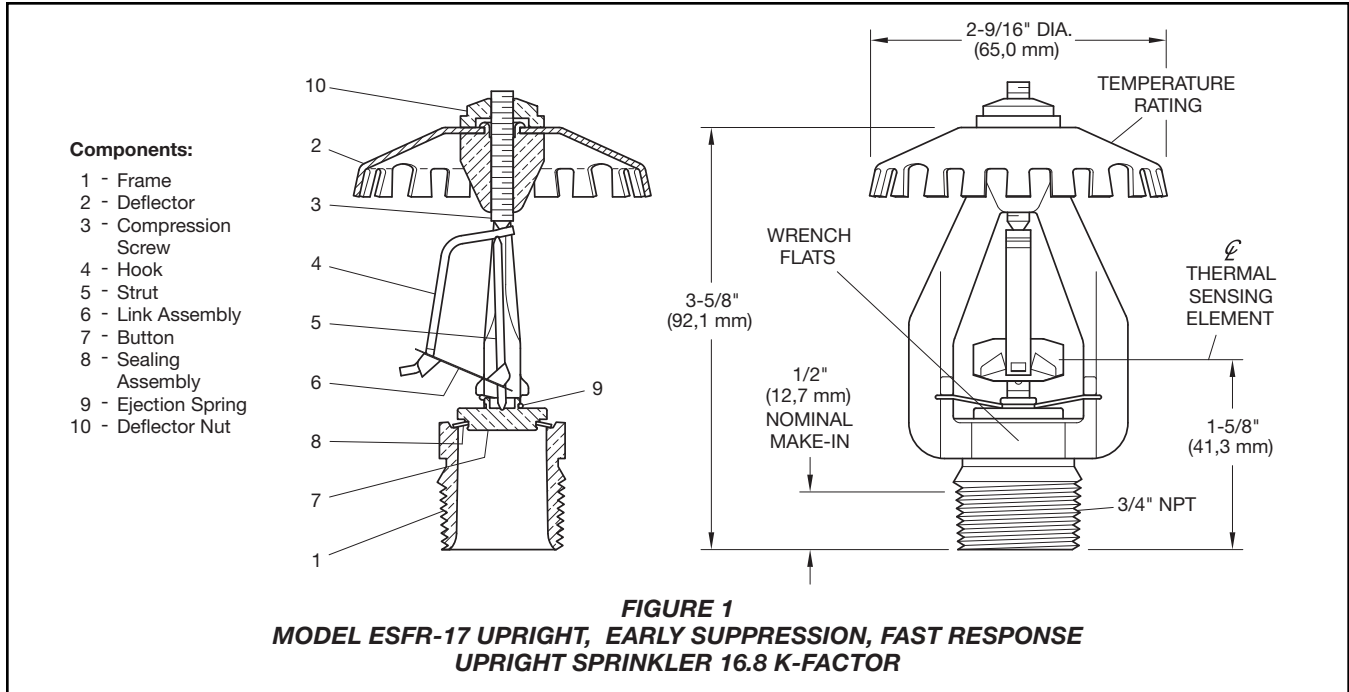

FIGURE 1
The TYCO Model ESFR-17 Upright Sprinklers are "Early Suppression, Fast Response Sprinklers" having a nominal K-Factor of 16.8 (Figure 1). They are suppression mode sprinklers that are especially advantageous as a means of eliminating in-rack sprinklers when protecting high-piled storage.
3. Wrench-tighten the Model ESFR-17 Sprinkler using only the W-Type 21 Sprinkler Wrench (Figure 2) and by fully engaging (seating) the wrench on the sprinkler wrench flats (Figure 1).
4. After installation, inspect the Link Assembly of each Model ESFR-17 Sprinkler for damage. In particular, verify that the Link Assembly and Hook are positioned as illustrated in Figure 1, and that the Link Assembly is not bent, creased, or forced out of normal position in any way. Replace damaged sprinklers.